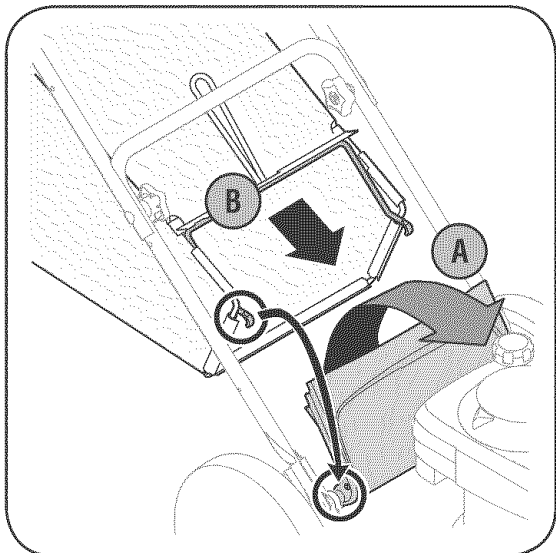

Figure 3-6: Attach the grass catcher.
- Lift rear discharge door, Figure 3-6.